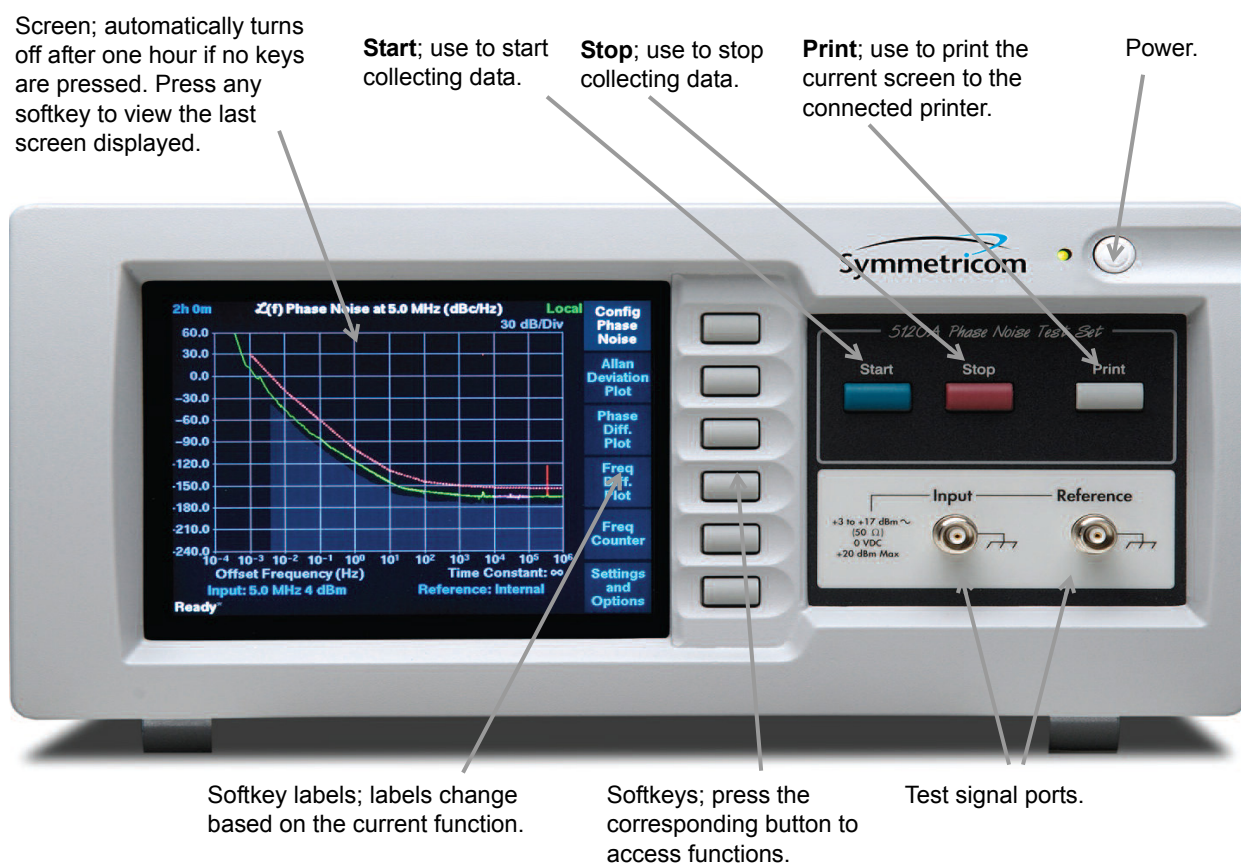
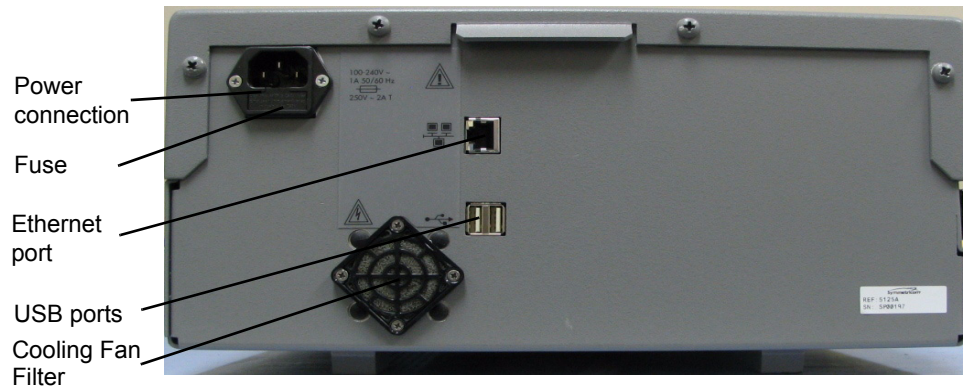
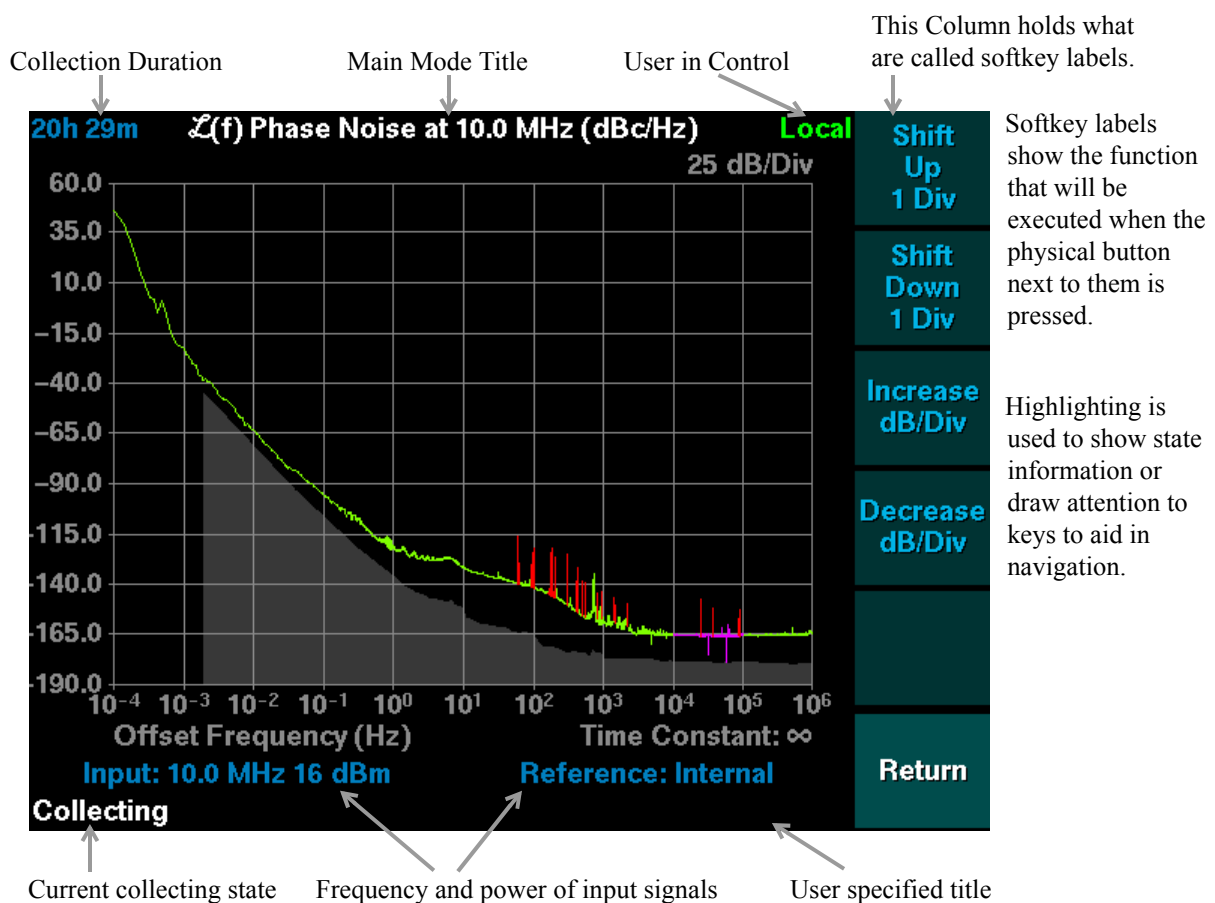
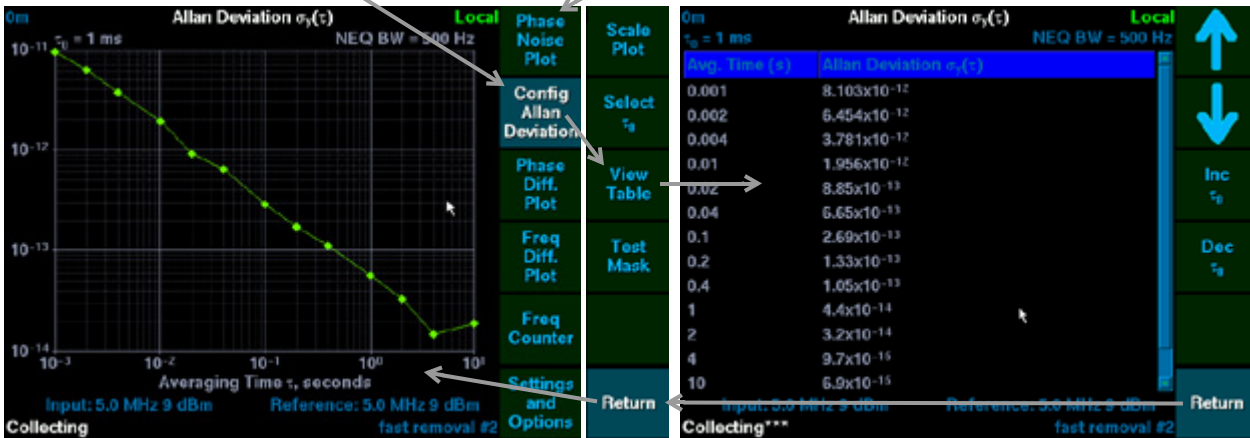

Figure 1: Front Panel
Figure 2: Rear Panel
Figure 3: Default Main Screen
Figure 4: Softkey Navigation
Figure 1 shows the test set's front panel, and Figure 2 shows the test set's rear panel.
- When *Ready* displays in the status field (see Figure 3 on page 11 and “3.2.1 Collecting State” on page 13) the instrument is ready for normal operation.
Figure 3 depicts the default screen after the test set has been collecting data for several hours. It names and describes the major components. These are described in section “3.2 Main Screen Components” on page 13.
The column labeled “softkeys” in Figure 3 mirrors the set of buttons on the test set front panel (Figure 1 on page 4 shows them side by side). The labels indicate the effect pressing the corresponding button will have.
Starting with the phase noise plot as shown in Figure 3, pressing the **Allan Deviation Plot** button would:
Pressing the same button at this time will enter a softkey menu (center in the figure below) that allows for scale and test mask configuration, τ_0 selection, or viewing the Allan deviation in table format. This softkey menu has a highlighted **Return** softkey to return to the previous menu. Figure 4 shows the flow from the Allan deviation plot, to its table format, and back to the plot.
This manual uses the following convention to describe the softkey-based navigation flow shown in Figure 4 on page 12:
This section provides a description of the main screen components shown in Figure 3 on page 11.
- *Collecting* state is entered once initialization is complete and the test set has begun collecting and presenting data. When *Collecting* state is reached the test set starts displaying measurements and tracking how long it has been collecting. See the top left corner of Figure 3 for an example of the collection duration.
To avoid interference between *Local* and *Remote* users, certain operations and configuration settings require that the user wishing to perform them be in control of the test set (or willing to take control). The user who is in control of the test set is identified in the top right corner of Figure 3. The figure shows that the *Local* user has initiated data collection. If a *Remote* user were to issue the stop command, they would receive a warning reminding them that they are not in control of the test set. At this point the remote user can take control from the local user. See “7.2.1 Taking or Yielding Remote Control” on page 58 for details on taking *Remote* control.
A short string shown in the bottom right corner of Figure 3 can be entered using a USB keyboard or set on the network interface. One title may be assigned at a time. The title appears on all printouts and can thus be used to correlate data sets, identify the owner or input signal sources. The title can be up to 34 characters long.
Figure 3 on page 11 and Figure 4 on page 12 are examples of plots. Four of the five main screens are plots. Plots can be configured in various ways described in detail in later chapters dedicated to data set configuration.
There are two types of tables. The first is a read-only table such as the Allan deviation table. The second type is an interactive table. Both types present softkeys which scroll the table up or down as can be seen in the example table on the right side of Figure 4 on page 12. The scroll keys have different effects depending on the type: